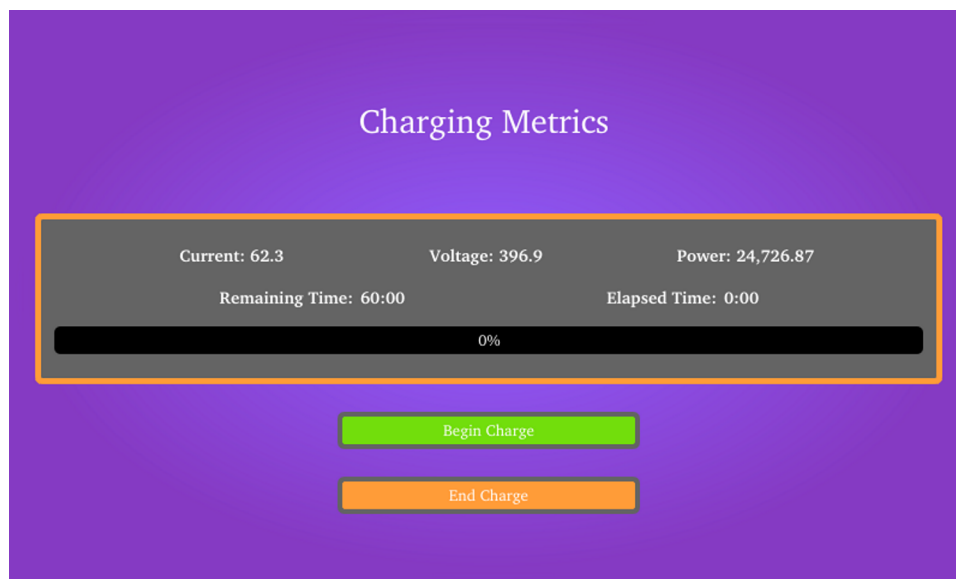

图 12. EVSE HMI Demonstration GUI—Rate-Charging Metrics Screen (Page Four)
7. 图 12 shows the last page in the demonstration.